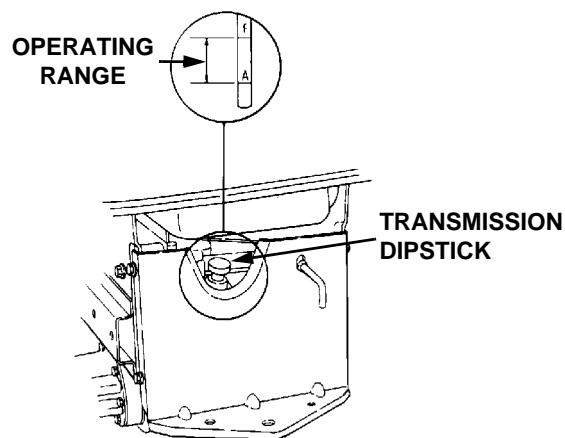

Figure 23
Check the oil level of the transmission case before each use to see that it is filled to the correct level. Before checking the transmission oil level, clean the area around the oil fill plug/dipstick to prevent debris from entering the transmission case. Always keep the oil level between the "FULL" and the "ADD" marks on the dipstick (See Figure 23). When checking the oil level, the dipstick must be withdrawn and wiped clean, then inserted all the way before being withdrawn for a true reading.
3. Remove the oil fill plug/dipstick from the oil fill port and SLOWLY pour oil into the oil fill port. Fill the transmission case until the oil level reaches the “FULL” mark on the dipstick (Refer to Figure 23).